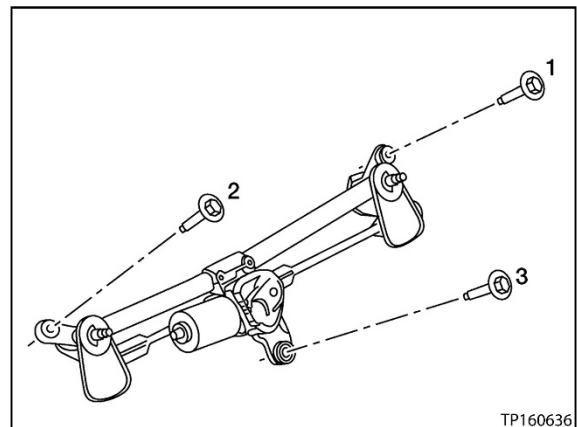

Figure 114
b. Install the wiper drive assembly (see Figure 114).
- Torque the bolts in the order shown in Figure 114.